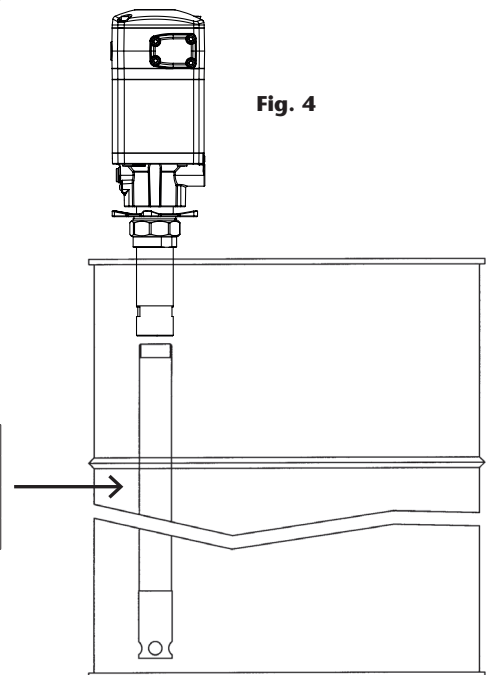

Fig. 4
- Adjustable drum or tank mounting, using bung adapter 360 001. Screw the proper suction tube (see fig. 4) to the foot valve of the pump. Screw the nut of the bung adapter to the 2" opening of the cover. Insert the suction tube through the nut and secure it with the star nut at the desired height.